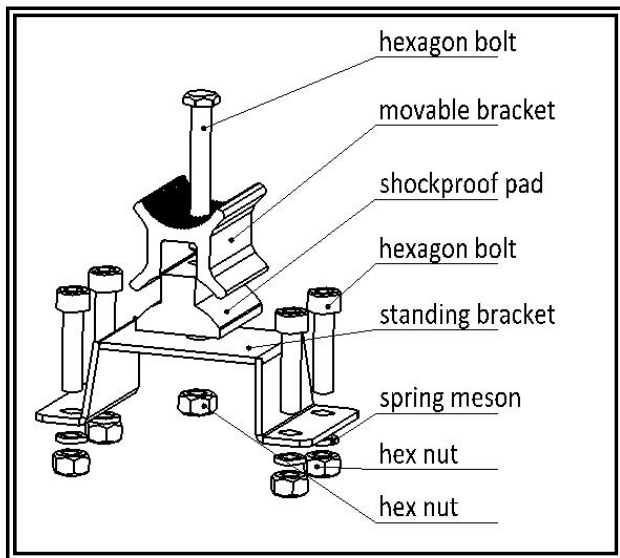

Figure 3
1. First, put hexagon bolt through movable bracket, shockproof pad and the bracket, then fasten hex nut. See Figure 3.